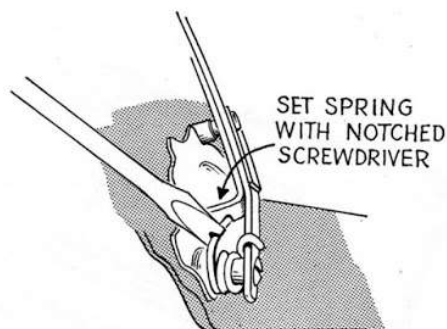

Fig. 5
- c. Over the right bail stud first place roller detent spring with rounded end resting on rear side of bail arm; then tighten bail screw. With cleaner inverted, raise the bail to the level of the switch ball. The straight end of the spring must be forced into the notched lug projecting from the inside of the handle control lever. See Fig. 5. The best tool to do this is a $\frac{1}{4}$ inch screw driver having a "U" slot ground into the end of the blade. The slot is to prevent the screw driver from slipping off the spring and to permit twisting the end of the spring while it is being forced over the lug on the handle control lever to put tension on the spring.